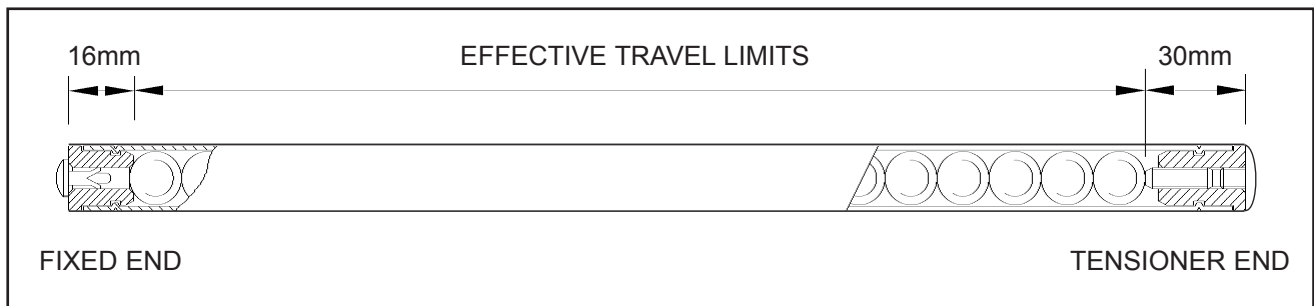

Figure 6.1 - DSG Scale
- (A) Erroneous readings will occur if the reader head is allowed to travel beyond the effective travel limits. (Refer to Figure 6.1)
- (B) The pre-load on the balls are factory set via the set screw at the tensioner end. Do not tamper with or adjust the set screw as this will alter the calibration and accuracy specification of the scale. (Refer to Figure 6.1)